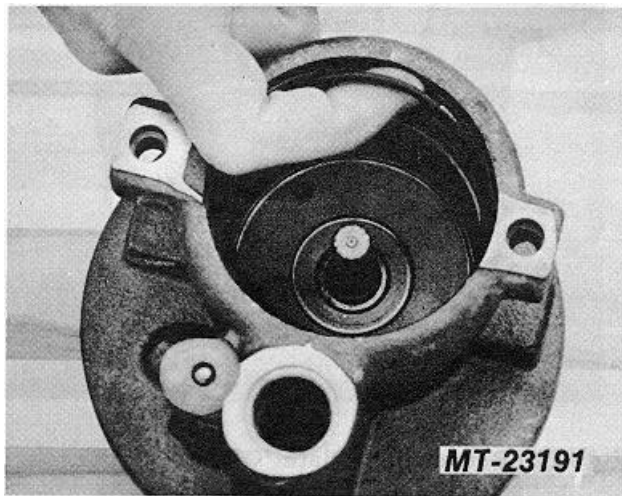

Fig. 12 Remove Pressure Plate "O" Ring
10. Remove and discard pressure plate "O" ring (Fig. 12).